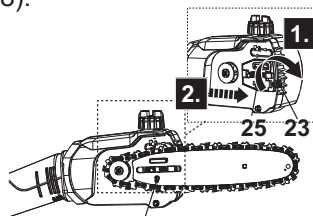

Fig. 8
- Screw the tension screw (23) with the multi tool (28) clockwise out to adjust the tension pin (25) / guide bar (16) towards the right to tighten the saw chain (17) (Fig. 8).